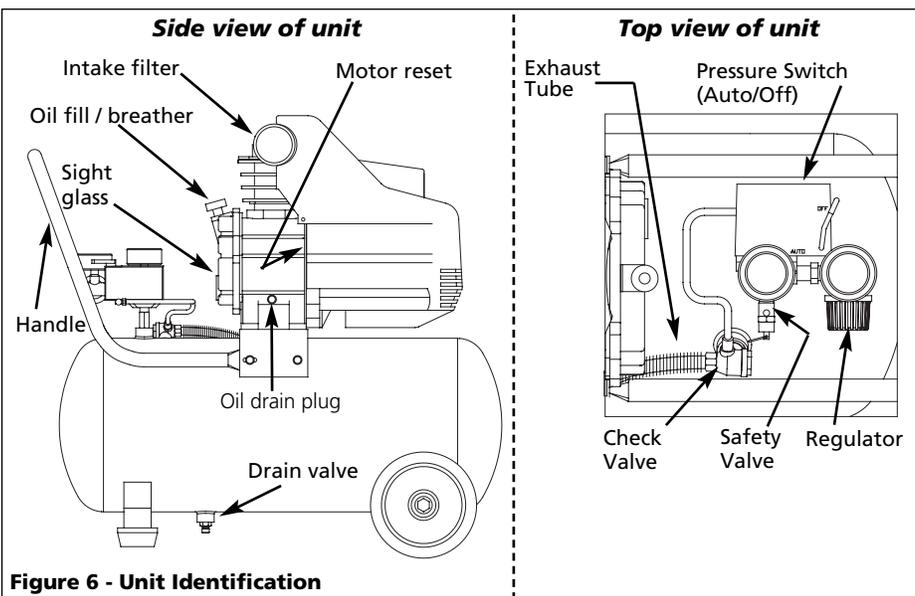

Figure 6 - Unit Identification
2. Wearing safety glasses, pull the ring on the safety valve (see Figures 6 and
1. Turn compressor off and release pressure from system. To release pressure from system, pull ring on ASME safety valve (see Figures 6 and 8). Deflect escaping air by shielding valve with one hand as you pull ring with other hand. Pull ring until tank is empty.
2. Drain moisture from tank by opening drain valve (see Figure 6) underneath tank. Tilt tank to remove all moisture.
3. Remove oil drain plug (see Figure 6). Allow oil to collect in pan. Tilt unit to completely drain.